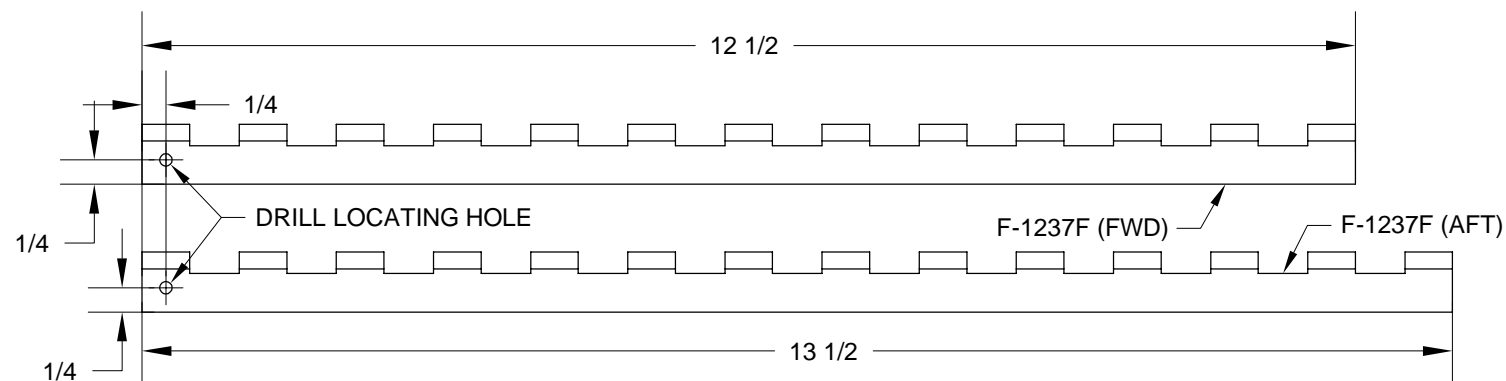

**FIGURE 4:**
**Step 5:** From the AN257-P3 hinge halves, make an F-1237H Seatback Hinge using the dimension given, and remove the center eyelet as shown in Figure 4.
**Step 6:** Drill a #30 locating hole in the F-1237H Seatback Hinge using the dimensions given in Figure 4.